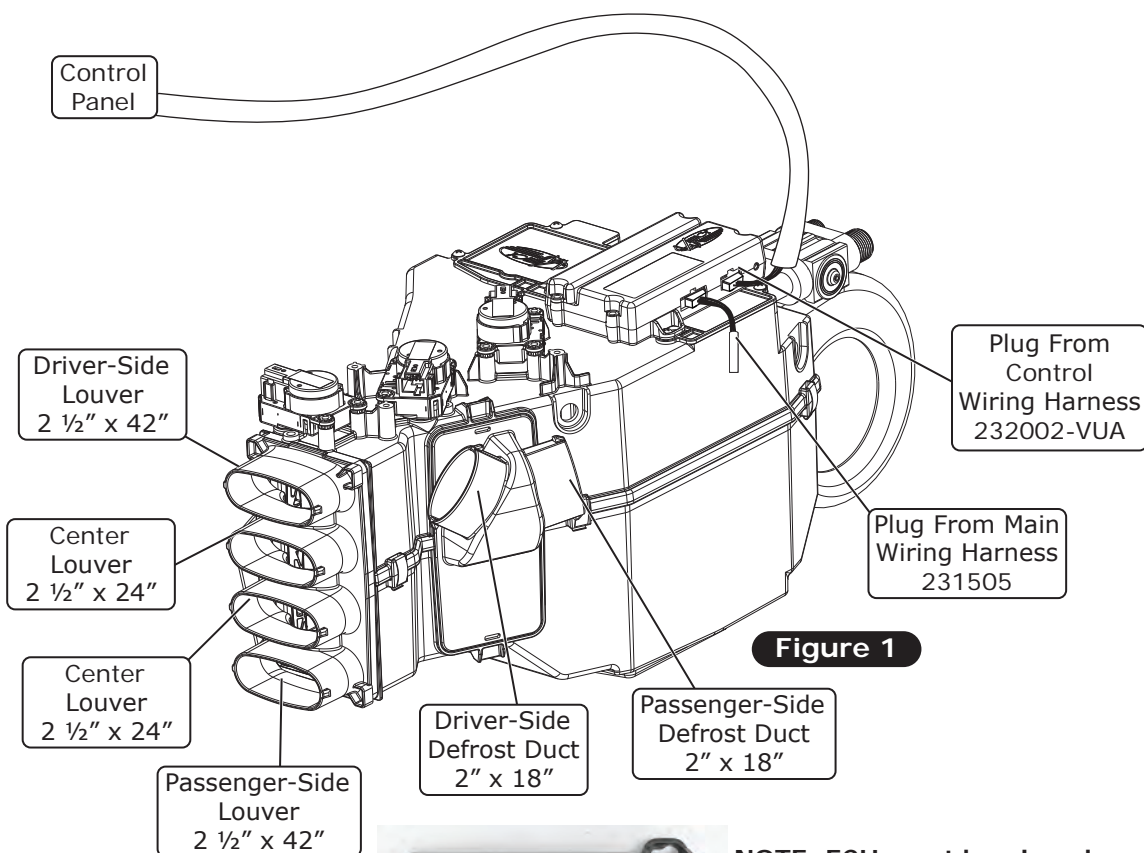

Figure 1
1. Install (2) #8 U-nuts onto the center louver hose adapter (See Figure 1, below).
2. Install (2) .313" length nylon spacers onto the tabs of the center louver vent bracket (Figure 1, below).
3. Install (2) nylon flat washers onto the center vent louver (See Figure 1, below).
4. Insert the center vent louver into the OEM louver housing. Install the center louver vent bracket with (2) nylon spacers onto the housing (See Figure 1, below).
6. Attach (2) 24" lengths of 2 1/2" duct hose to the center louver hose adapter (See Photo 2, below).
7. While holding the center louver assembly and the center louver hose adapter together, align the assembly holes with the holes on the dash. Secure the assembly using (2) #8 x 1/2" screws (See Photo 3, below).